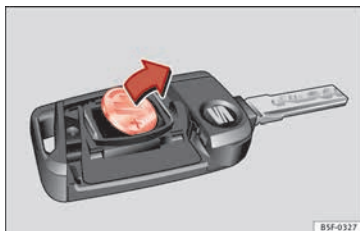

Fig. 133 Vehicle key: removing the battery
- Extract the battery from the compartment using a suitable thin object » **Fig. 133.**
- Place the new battery in the compartment as shown » **Fig. 133**, pressing in the opposite direction to that shown by the arrow » **❷.**